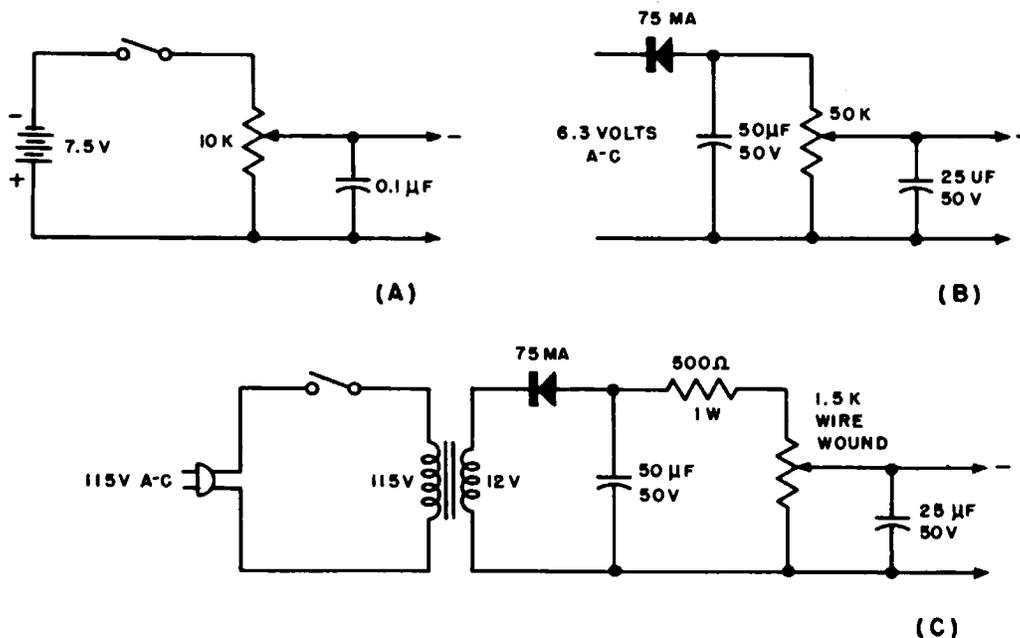

Fig. 5-6. Construction of three simple agc bias boxes. Courtesy DuMont Service News.
**ANS.** The schematics of three simple agc bias boxes are illustrated in Fig. 5-6(A), (B), and (C).
The bias box of Fig. 5-6(B) uses a selenium rectifier, rather than a battery, to produce the d-c output. The input to this bias box is 6.3 volts a-c, which may be tapped from a filament of the receiver under test.
The bias box of Fig. 5-6(C) is the most elaborate, but the most convenient in the long run. It uses a filament transformer and a selenium rectifier to produce the desired d-c output. The advantage
of this box over that of Fig. 5-6(B) is that its input can be connected to any 115-volt outlet.